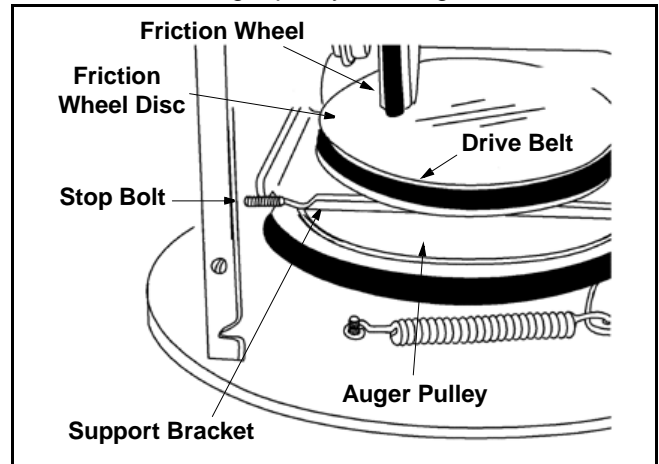

Figure 20
- Back out the stop bolt until the support bracket rests on the auger pulley. See Figure 20.
- Slip belt between friction wheel and friction wheel disc. See Figure 20. Remove and replace belt.
NOTE: The support bracket must rest on the stop bolt after the new belt has been assembled. See Figure 20.